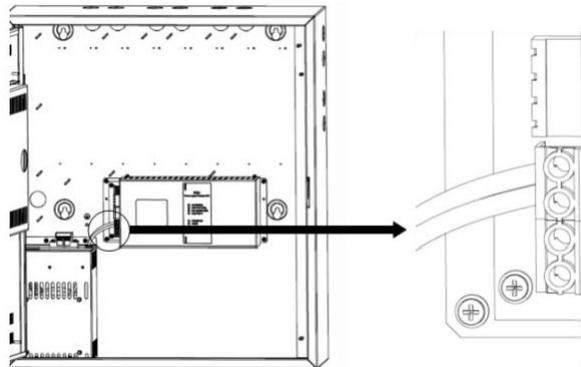

Figure 2
- 3) Connect the FW397 with the FW391 PTU using the wires and terminals provided. (See Figure 2.)